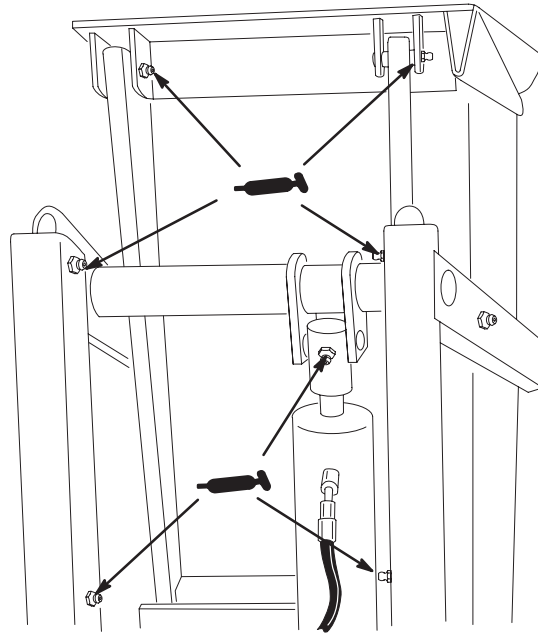

Figure 23
After every 25 hours of operation, grease the cylinder and all pivot points with No. 2 multi-purpose lithium base grease. There are (8) grease fittings at various pivot points and (1) fitting on each end of cylinder (Fig. 23).